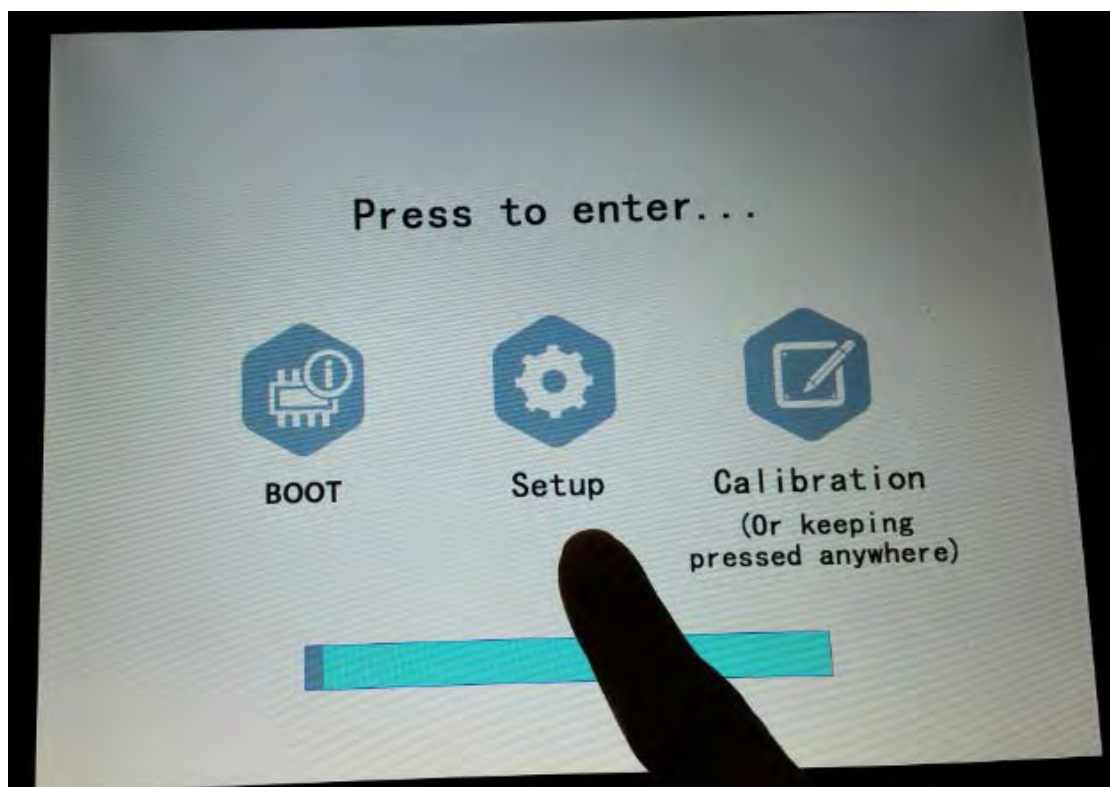

Fig. 30
③ Press the button “Setup” for uploading, as shown in Fig. 30. Select “Project” and enter the password, as shown in Fig. 31. The default password for project management is “888888” which can be modified in the “Global Setting” of the software.